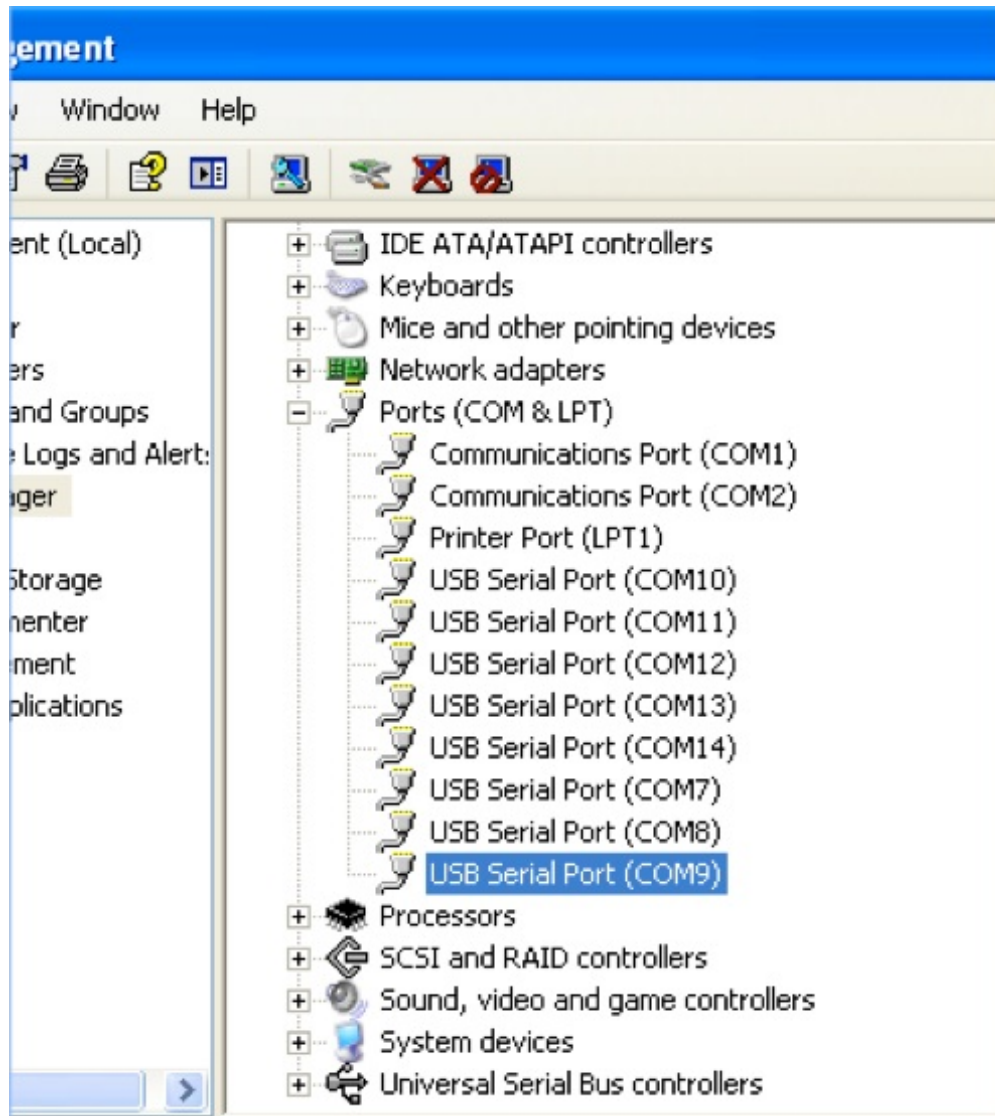

Figure 2: Device Manager Example
4. Make sure that the baud rate is set to 9,600 for CLI and 115,200 for API. As an example , see Figure 2: